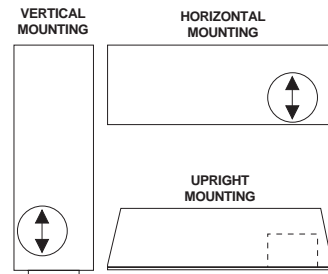

Figure 13. Detector Arrow Positions
- Position the detector so that the arrows, based on the mounting position of the sensor, point up and down as shown in Figure 13.